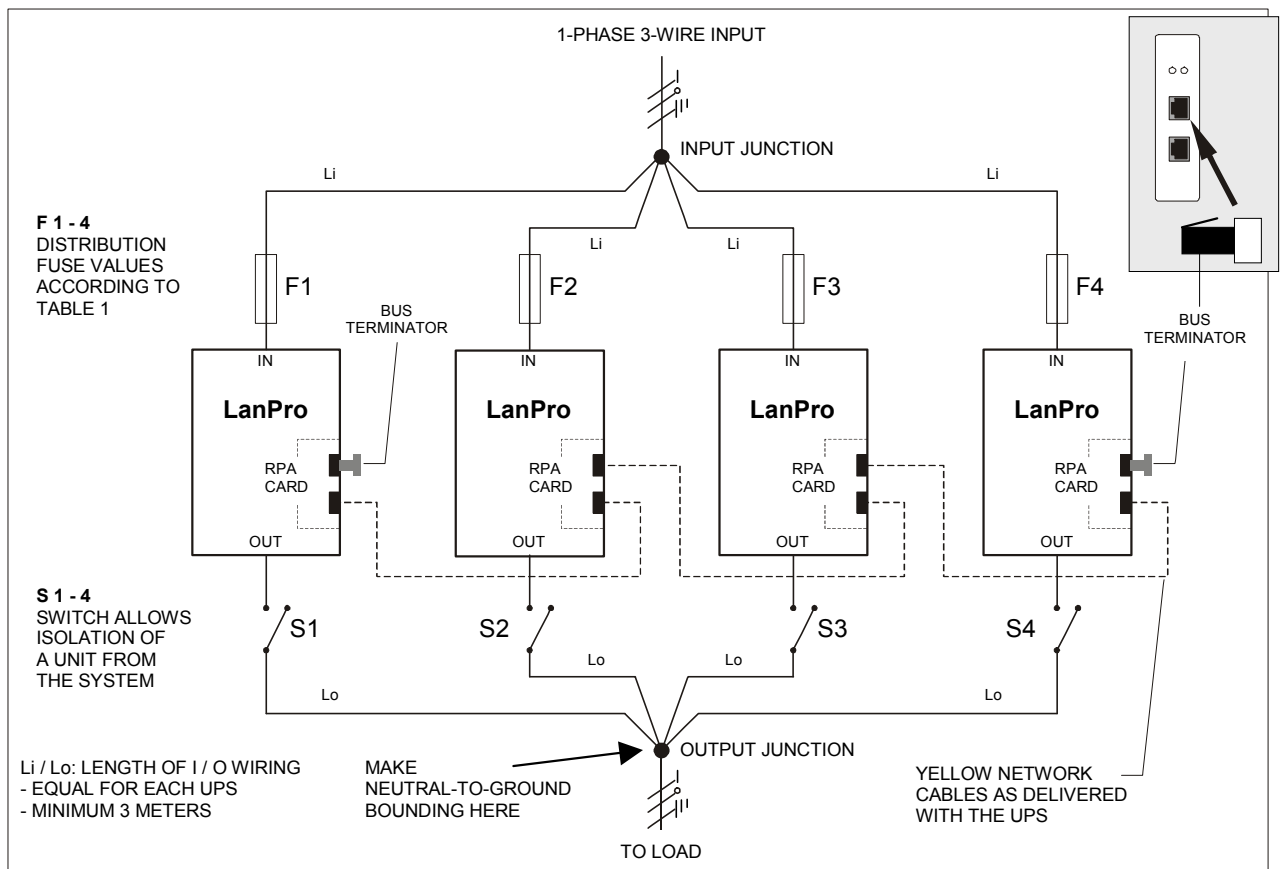

Figure 10. Installation of parallel operating LanPro-11 UPSs
2. All outputs must be connected together, supplying the load. It is advised to install switches (S 1-4, fig. 10) in the output wiring, in order to be able to isolate a unit from the remaining system for service and maintenance purposes. It is advised to make a Neutral-to-Ground bounding in the output junction.
4. The length of all input cables from the input junction (Li, fig. 10) to the UPS inputs should be equal. The same applies to the cables from the outputs to the output junction (Lo, fig. 10). The minimum length of the input as well as the output cables is 3 meters.
7. Interconnect the RPA-cards of the units, using the network cable that came with the UPS. See figure 10 (dotted line). Only use the cables that were delivered with the UPSs! Of the first and the last UPS in the system only one RPA-socket is used to interconnect the UPSs. A bus terminator must be placed in the other (free) RPA-socket. The required bus terminators have been delivered with the unit.
2. Remove the installation fuse from the input of that UPS (F1-4 in figure 10),
3. Separate the output of the UPS from the output junction (S1-4 in figure 10).